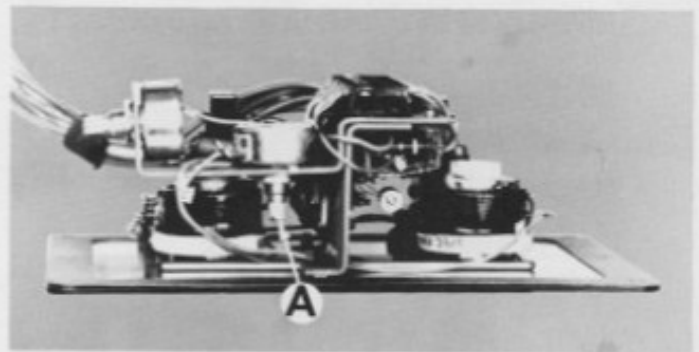

Figure 36 — Speed Trimming Rheostat
10. Stop spindle at high speed (3000 R.P.M.). O.D. of headstock belt should be flush to 1/16" out of pulley. Make corrections, **IF NECESSARY**, at rheostat "A", Figure 36, in control head. Turn rheostat knob gradually clockwise to bring headstock belt out of pulley.
Speed trimming rheostat "A", Figure 36, is used to set top speed after changing belts or repairing drive (see step 10 under "Speed Change Mechanism Replacement", Page 9).